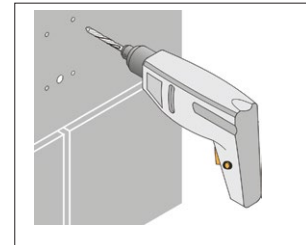

Fig. 3
- 3 - Drill the mounting holes. (Hole diam: 3/16") ( Fig. 3);